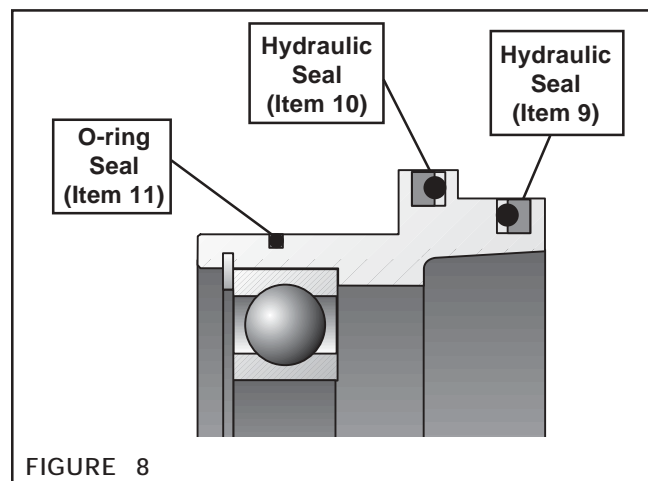

FIGURE 8
- NOTE: The two Hydraulic Seals (Items 9 and 10) must be aligned as shown (See Figure 8).**